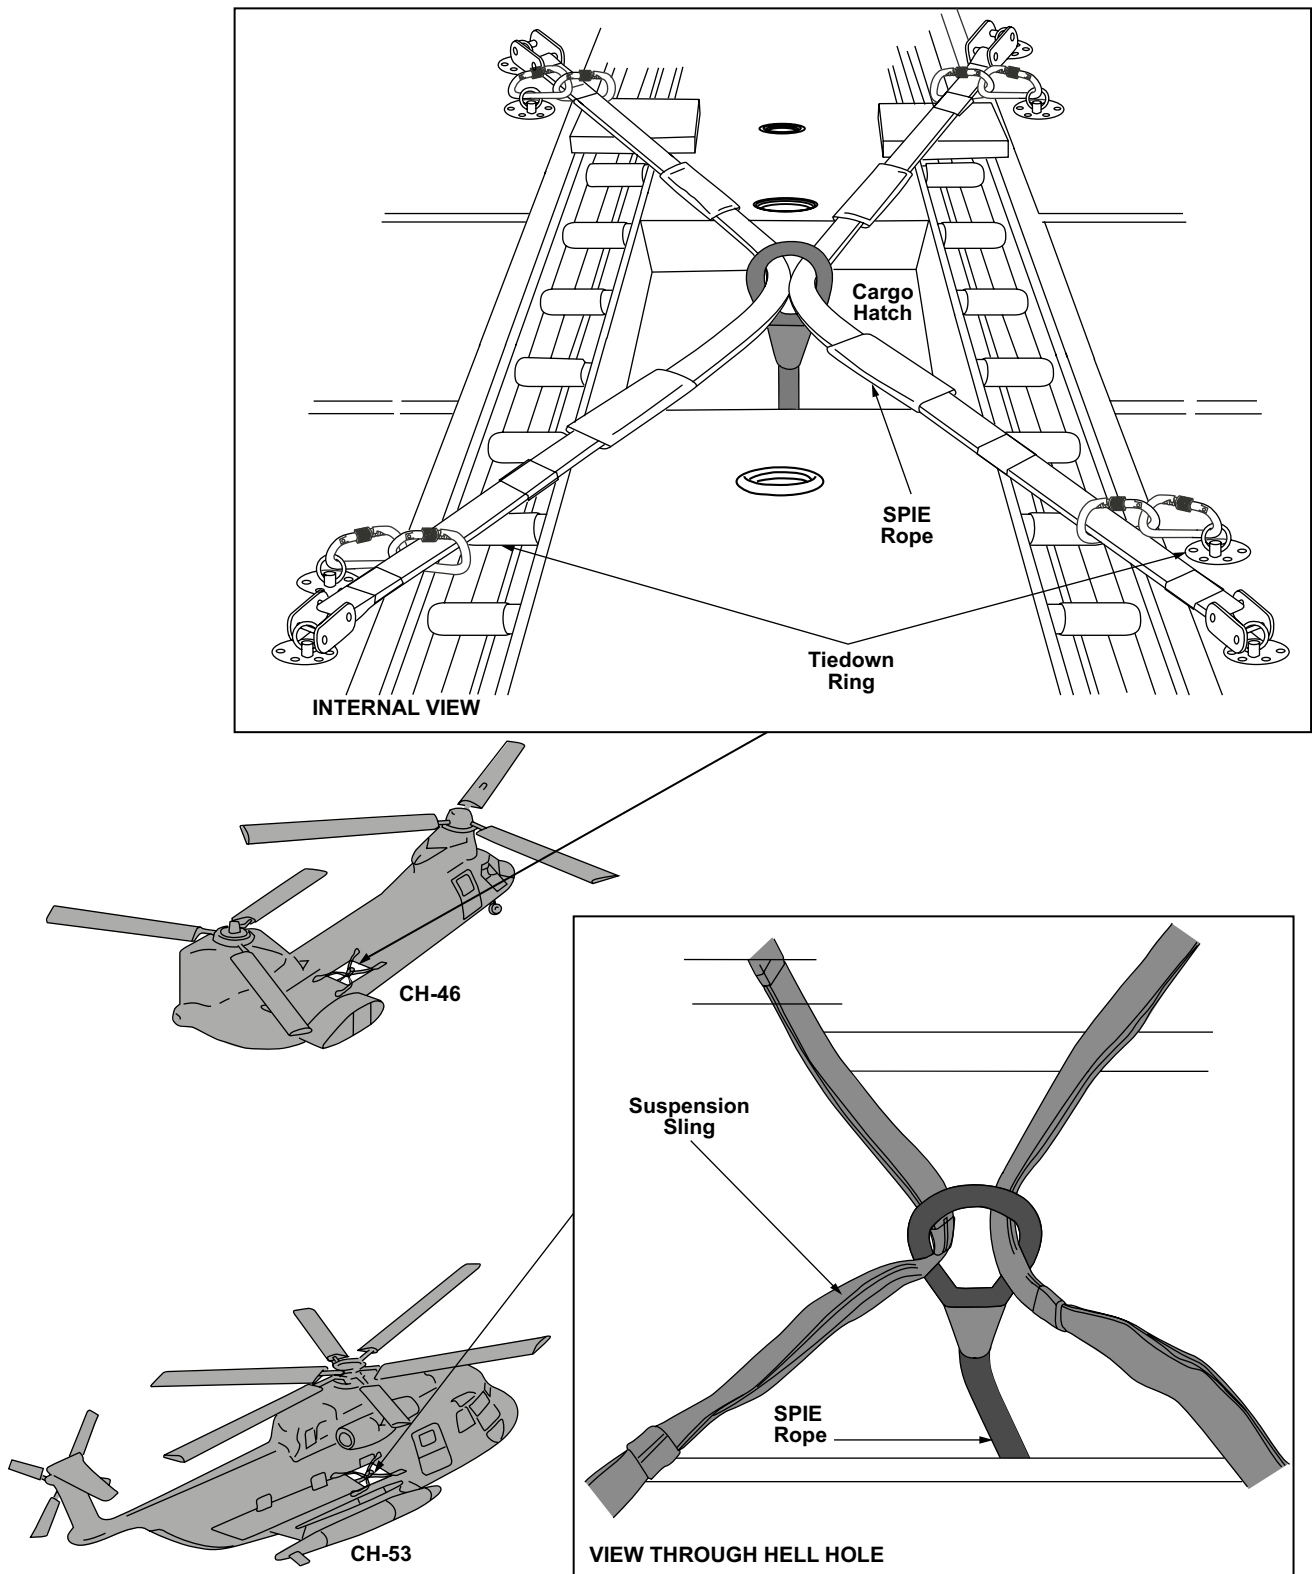

Figure 6-3. CH-46E and CH-53D/E SPIE Rope Installation.
- Attach locking carabiners close to all tie down points to create a backup in case of a faulty tie down ring. This also reduces the amount of movement in the cargo straps. Use a total of eight locking carabiners, two at each point (linked together), with the gates facing up (see fig. 6-3).